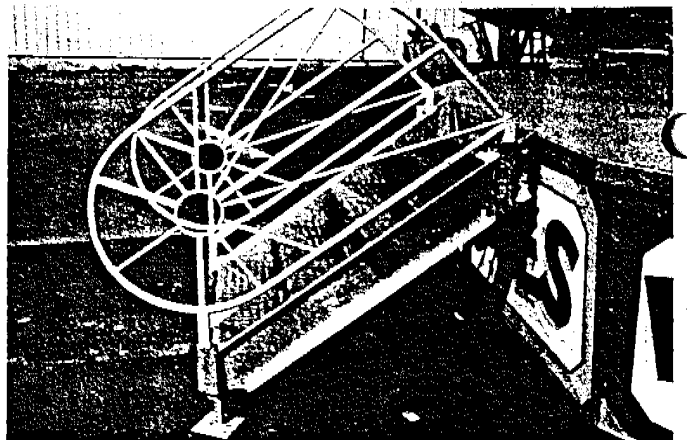

Fig. 31
- c. Slide the step feet posts into the sockets at the base of the step frame. (Fig. 31)
- d. Adjust the height of the bottom step by inserting pins into the holes in the step feet posts. The bottom step will rest on these pins. (Fig. 31)